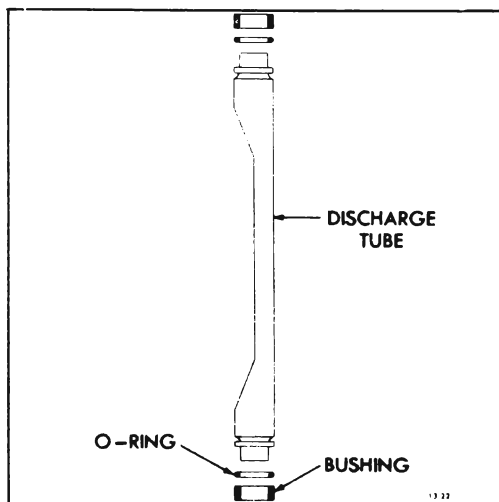

Figure 13-111 Service Replacement Discharge Tube
5. Obtain new service replacement discharge tube and assemble into front cylinder (see Figure 13-111).